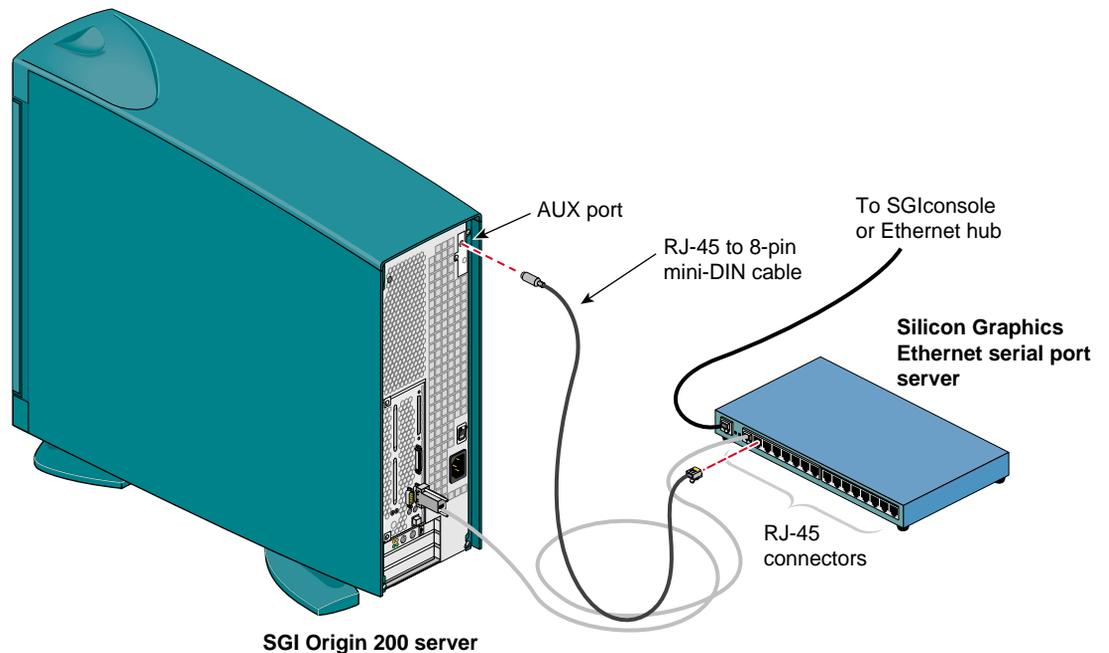

Figure 5-4 Connecting the SGI Origin 200 Server AUX Port to the Serial Port Server
7. Connect the RJ-45 end of the RJ-45-to-8-pin mini-DIN cable to one of the RJ-45 serial jacks on the Silicon Graphics EL-16 serial port server. Connect the 8-pin end of the cable into the SGI Origin 200 server Aux port that connects to the server module system controller (MSC). See Figure 5-4.